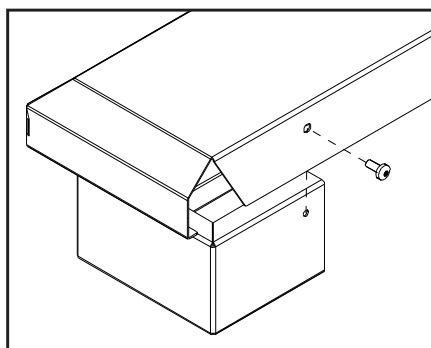

Figure 44: Installing Base Shelf onto Riser.
3. If installing with riser(s) the Base Shelf is to be fastened to the riser(s) with one T-20 screw at each end of the back (see Figure 44).
4. The leveling legs on the E20 may need to be adjusted to match the height of the riser and shelf. Each leveling leg has two (2) screws that can be loosened using a 1/4" hex driver. Adjust the leg to the required height and then retighten the screws.